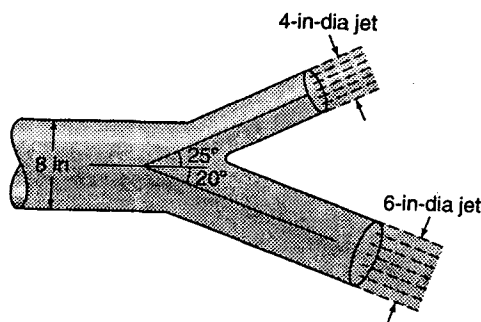

Figure P6.9
6.9 Both nozzle jets in Fig. P6.9 discharge horizontally into the atmosphere with a velocity of 40 fps. The liquid has a specific weight of 62.4 lb/ft³. The axes of the pipe and both nozzles all lie in a horizontal plane. Find the magnitude and direction of the resultant force on this double nozzle while neglecting friction.